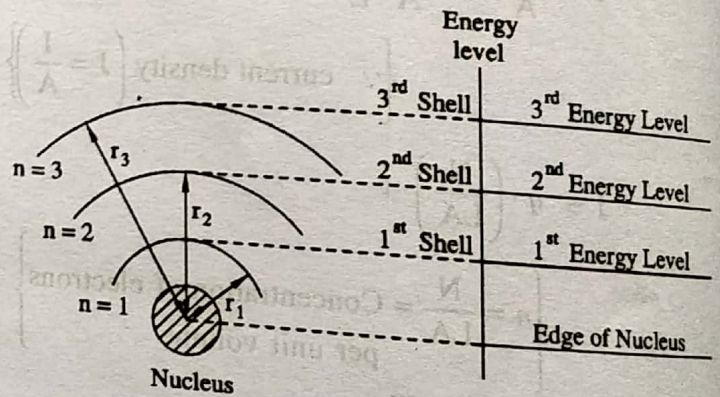

FIG. 1.12 : CONCEPT OF ENERGY LEVEL
- A convenient way of representing the energy of different orbit is shown in Fig. 1.12. This is known as energy level diagram.